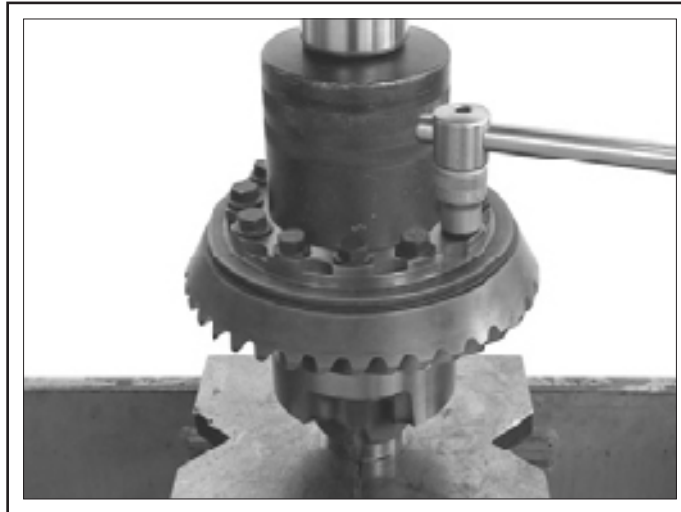

Figure 11 - Differential Bearing Crown Wheel
- 2.31. Loosen the crown wheel connection on the differential bearing. Remove and retain the locking bolts. See Figure 11.